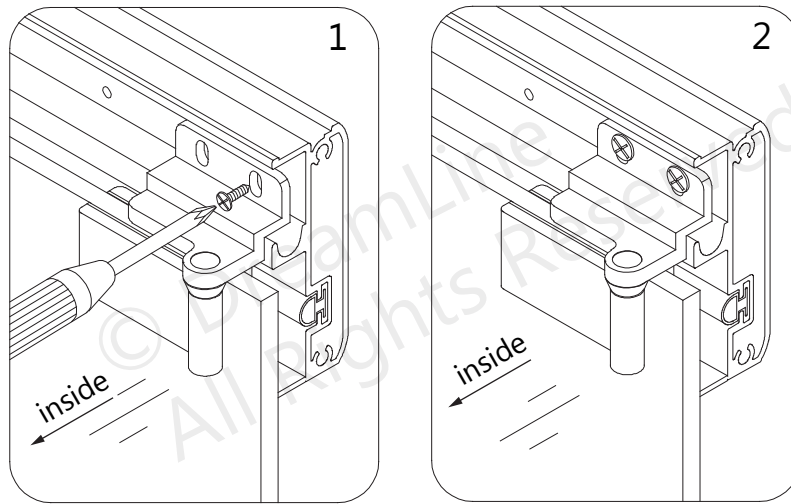

Fig 7
7. Attach the Hinge Assemblies (#13) into the pre-drilled holes in the Guide Rails (top & bottom) (#03) using the ST4.2×12 Truss Head Screws (#08). (Fig 7)